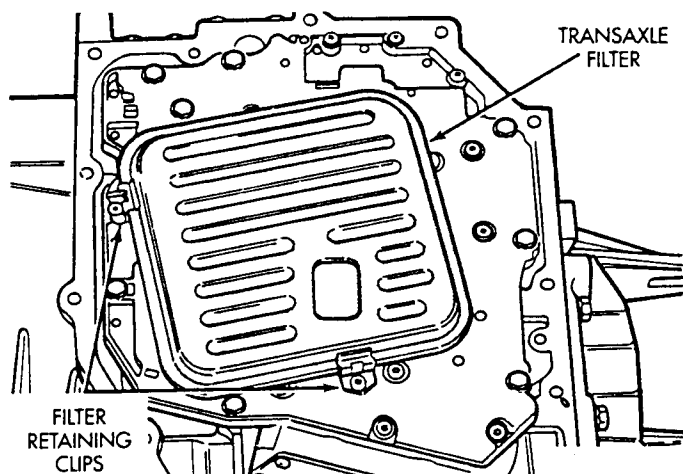

Fig. 3 Remove Transaxle Oil Filter
(6) Remove oil filter from valve body (Fig. 3). It is held in place by two clips.